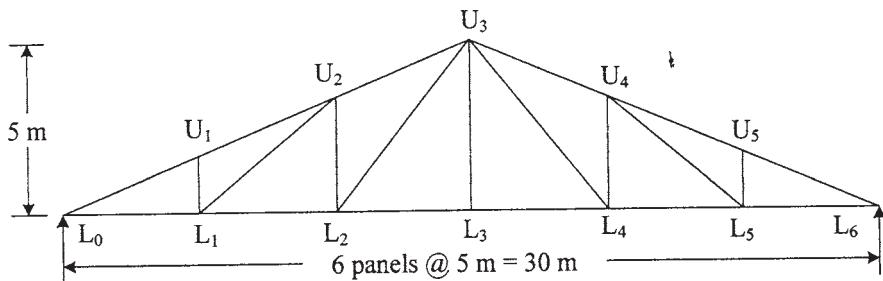

Fig. 9
- b)** Determine the panel point dead load, live load and wind load for an industrial truss as shown in Fig. 9. The design wind pressure is 1200 N/m², the trusses are covered with A C sheet and the centre to centre spacing of truss is 6m. [8]